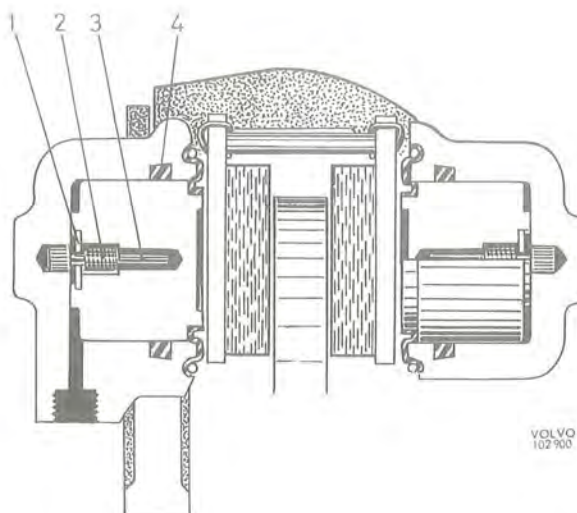

Fig. 5-15. Brake caliper with A.S.B. device
piston (and thus also the brake pad) is pressed against the brake disc and this removes the clearance, A. If distance A is now greater than distance B, this means that the washer (1, Fig. 5-15) is pulling the spring (2) with it in the direction of the brake disc. When the brake pedal is released, the piston is moved backwards by the sealing ring (4) so that clearances A and B are restored.